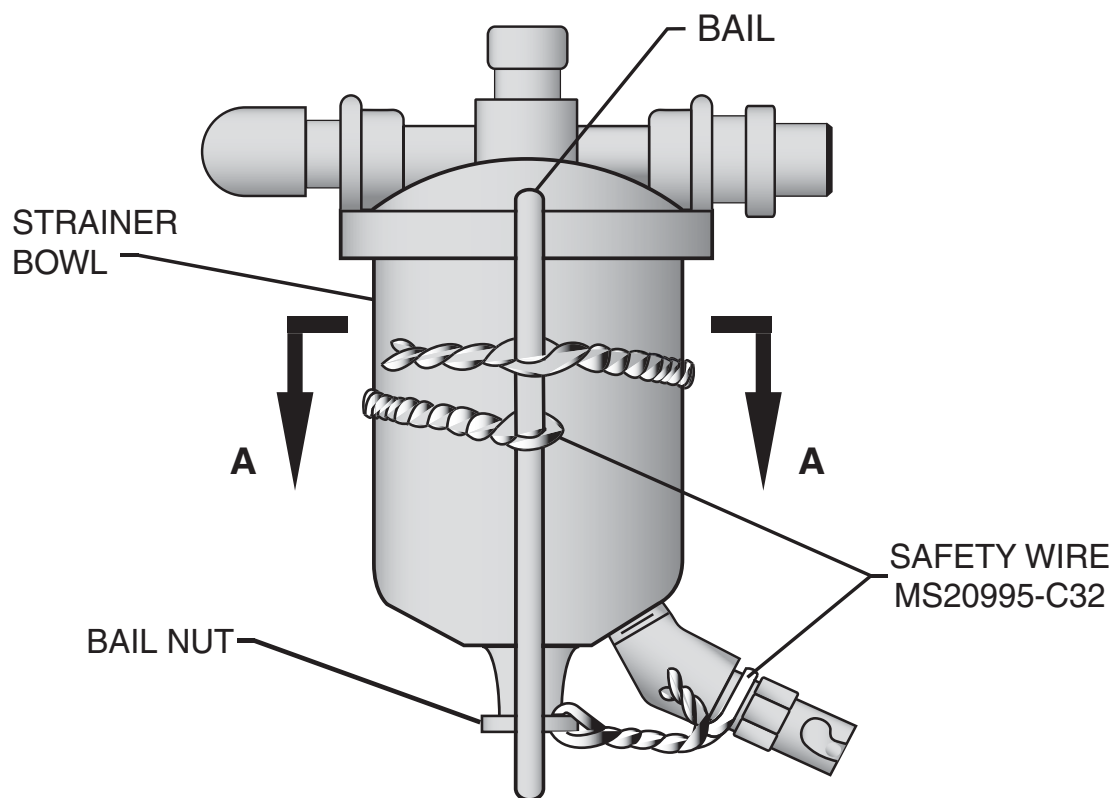

Figure 1
2. Although the affected aircraft were delivered with the type of Gascolator shown in Figure 1, there are many FAA-approved types of Gascolators that have a configuration that differs from that shown in Figure 1. Compare the Gascolator that is installed in the aircraft with the Gascolator shown in Figure 1:
- If the currently installed Gascolator matches the configuration shown in Figure 1, follow the maintenance procedures described in this Service Letter. Proceed to PART II Gascolator Maintenance.
- If the currently installed Gascolator does not match the configuration shown in Figure 1, follow the Maintenance Manual procedures provided by the Gascolator manufacturer, at intervals specified by the applicable Piper Maintenance/Service Manual in Chapter 12 or Section II, respectively. Proceed to PART III Documentation of Compliance.
9. Safety the Gascolator with MS20995-C32 Safety Wire as shown in Figure 1, using the “double twist” method, as described in FAA Advisory Circular AC 43.13-1B CHG 1, Chapter 7, Section 7, “SAFETYING”. This free document is available for download from the Federal Aviation Administration web site: